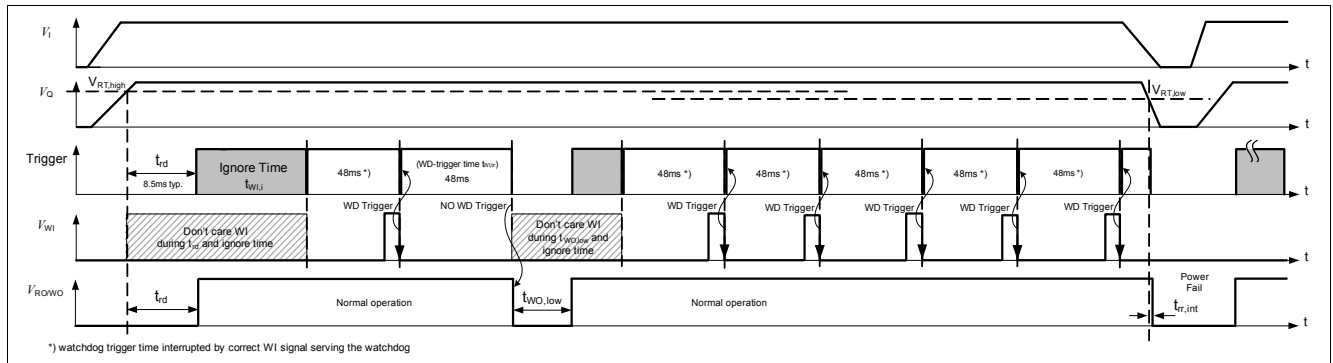

Figure 9 Typical Watchdog Timing Diagram, Watchdog and Reset Modes
Figure 9 shows the state diagram of the watchdog (WD) and the mode selection. After power-on, the reset output signal at the “RO/WO” pin (microcontroller reset) is kept LOW for the reset delay time t_{rd} . With the LOW to HIGH transition of the signal at “RO/WO” the device starts the watchdog ignore time $t_{WI, i}$. Next, the WD starts the watchdog trigger time (time frame within a trigger at WI must occur).